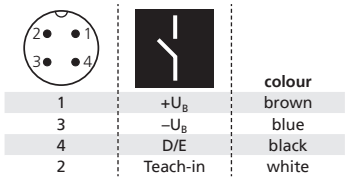

Fig. 1: Pin assignment with view onto sensor plug and colour coding of the microsonic connection cable
- ➔ Connect a connection cable to the M12 device plug, see Fig. 1.